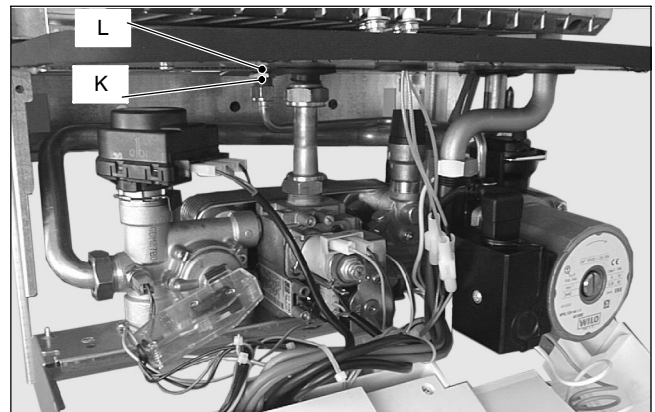

Fig. 7
- 2 Completely unscrew the connection K, the lock-nut L (Fig. 7) and remove the expansion vessel from the top of the boiler.